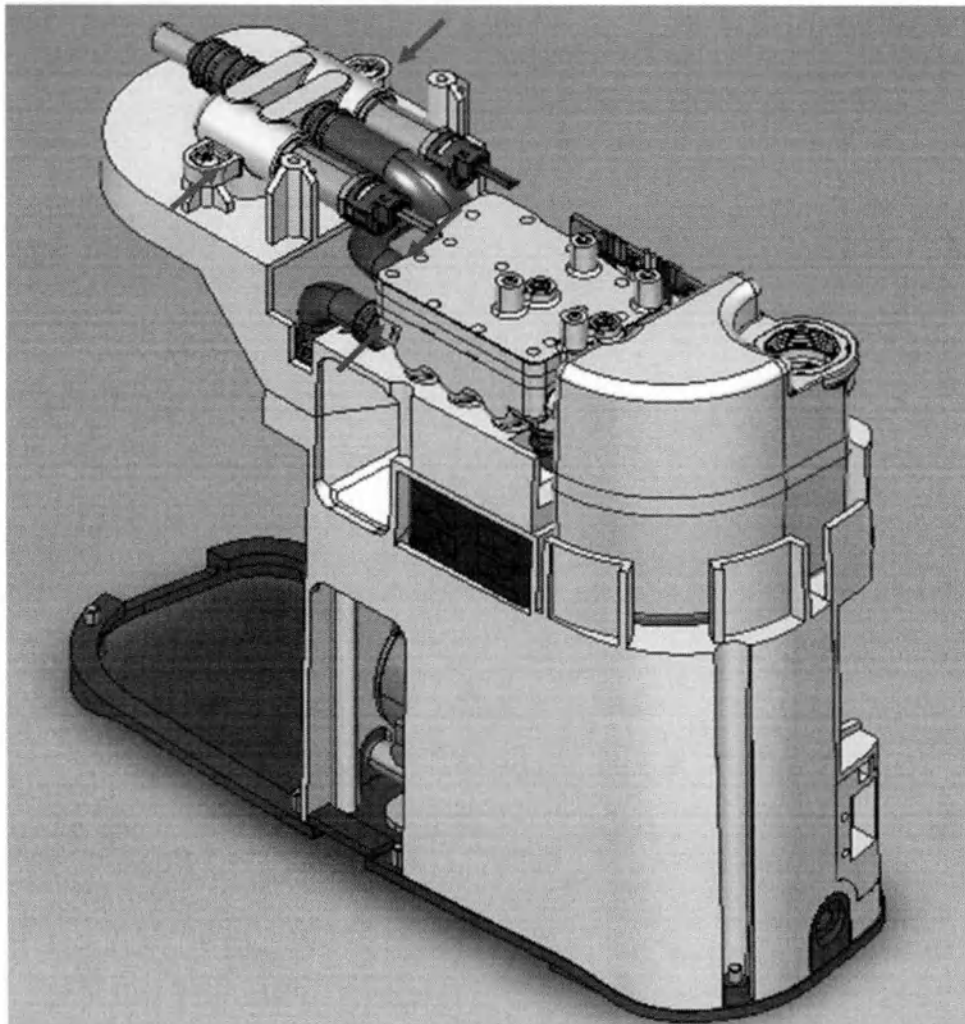

Figure 22
1. Disconnect the hoses and remove the 2 screws (3 x 10) on the feed waste manifold as shown in figure 22.